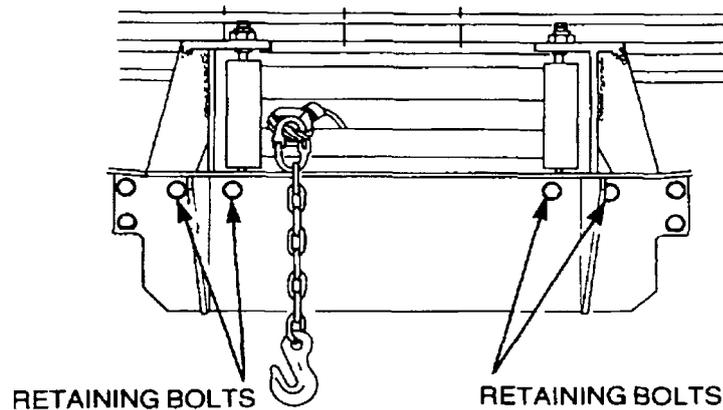

Figure 113 Fairlead Frame Removal
- f. Remove the bolts securing the fairlead frame to the winch housing and remove the frame (Figure 113).